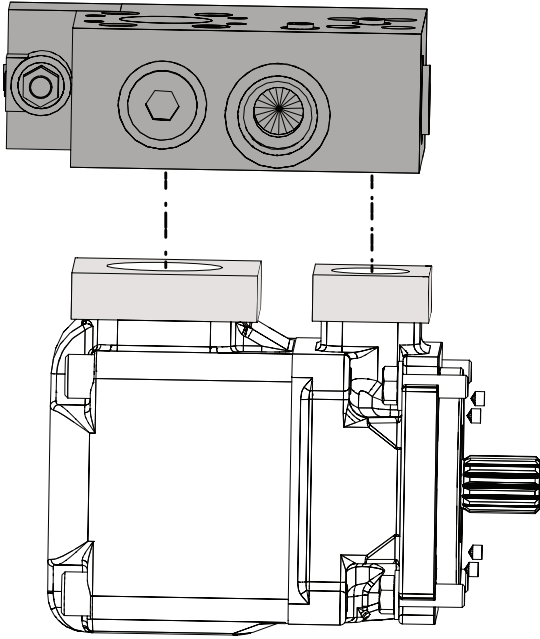
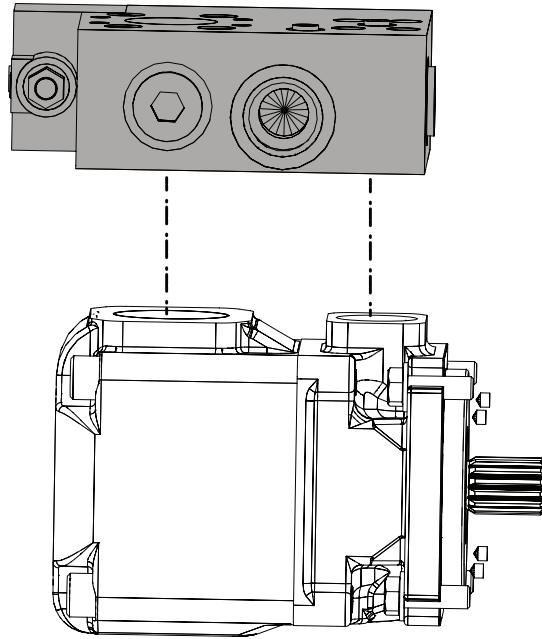

Figure 11 - With Spacers
Figure 12 - Without Spacers
12. Install the manifold - either on top of the spacers or on top of the pump itself (Figure 11 shows with spacers, Figure 12 shows without spacers). Ensure the o-rings on the bottom are intact and not damaged.